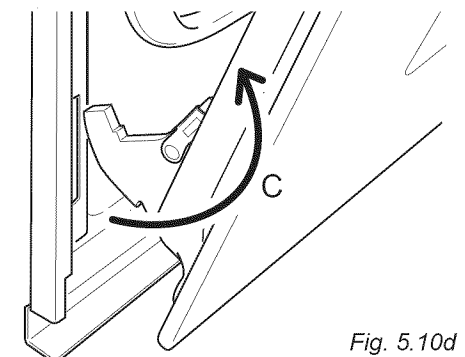

Fig. 5.10d
- Withdraw the hinge hooks from their location following arrow "C" (fig. 5.10d).